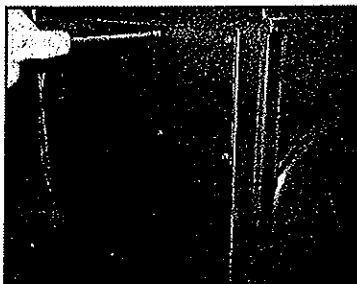

Figure 1BK - Removal of Fan Cover Plates
1. Remove both of the Cover Plates from the Backshield of the DV425 by removing the four (4) screws that hold each in place. See Figure 1BK.